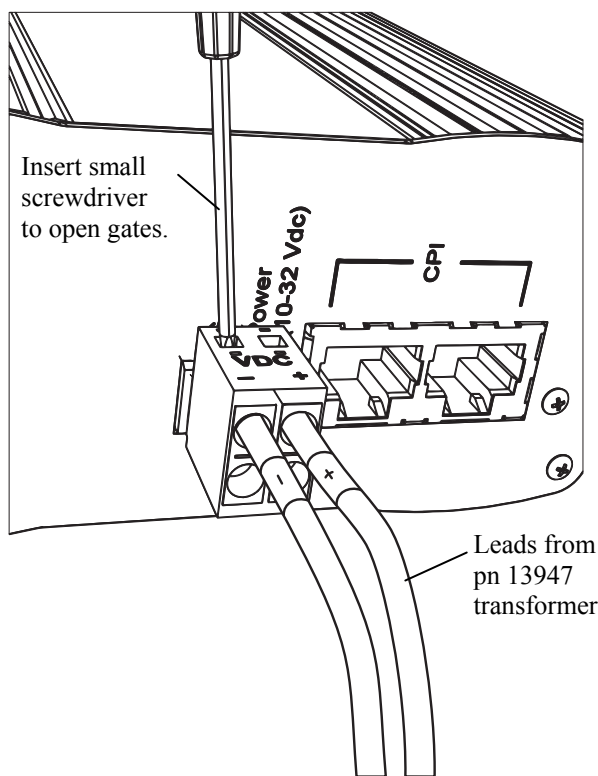

FIGURE 6-2. 12 Vdc power connection on the CDM-VW300
2. Connect 12 Vdc power to the CDM-VW300 as shown in FIGURE 6-2.